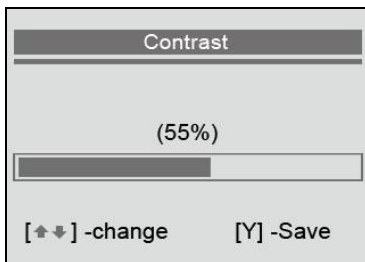

Figure 2.17
- 2) Press **UP/DOWN SCROLL** button to adjust tool display contrast, and then press **Y** button to confirm your change or **N** button to cancel and return to previous menu. (Figure 2.17)